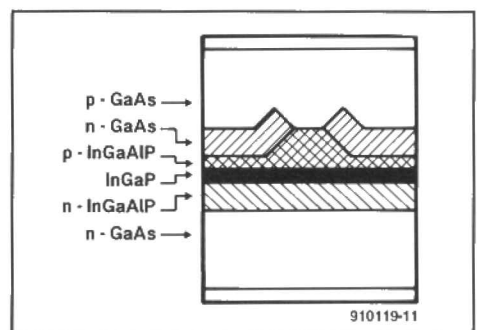
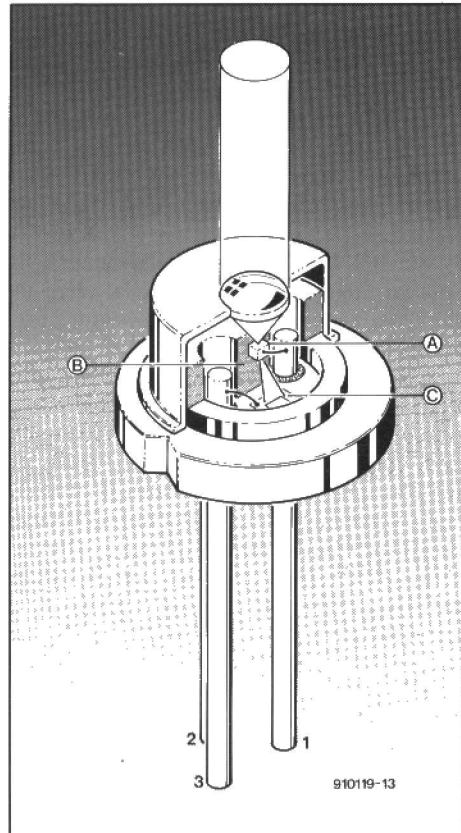

Fig. 1. Layer construction of the new Toshiba laser diodes.
Fig. 3. Artist impression of the cross-sectional view of the new Toshiba diodes.
The (index-based) construction of the TOLD9220 is shown in Fig. 1. Its major parameters (at 25 °C) are
An artist's impression of a cross-sectional view of the diode is shown in Fig. 3. The laser diode chip (A) is the semiconductor crystal shown in Fig. 1. Although the photodiode is contained in the same housing, the whole construction is referred to as the 'laser diode'. The construction is typical of CW diodes, which nowadays are produced in far greater numbers than pulse lasers.